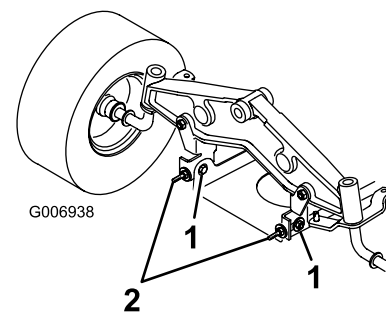

Figure 51
- Slightly loosen the front pivot plate mounting bolts (Figure 51).
- Rotate the locknuts on the eyebolts to change the adjustment (Figure 51).
- After adjusting both of the eyebolt locknuts evenly, check the front-to-rear slope again. Continue adjusting the eyebolts until the front blade tip is 0 to 3/8 inch (0 to 9 mm) lower than the rear blade tip (Figure 51).
- When the front-to-rear slope is correct, tighten the pivot plate mounting bolts (Figure 51).